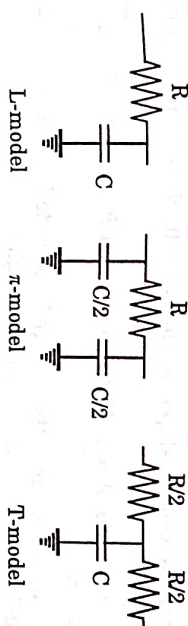

Fig. 2.7.1. Lumped approximation to distributed RC circuit.
- Fig. 2.7.1 shows how a distributed RC circuit is equivalent to N distributed RC segments of proportionally smaller resistance and capacitance, and how these segments can be modeled with lumped elements.